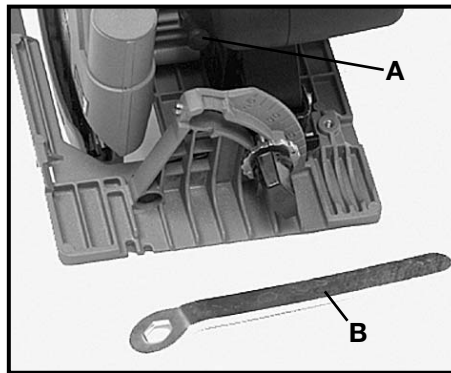

Fig. 1
2. Push in blade lock (A) Fig. 1, and rotate blade by hand until lock engages blade arbor.
3. While holding blade lock engaged, use wrench provided (B) Fig. 1, and loosen blade retaining bolt by rotating counterclockwise.